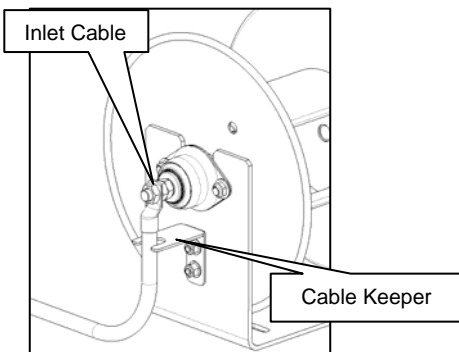

Figure 1
- Install inlet cable onto copper stud underneath the first 1/2-13 brass nut as shown in **Figure 1**.